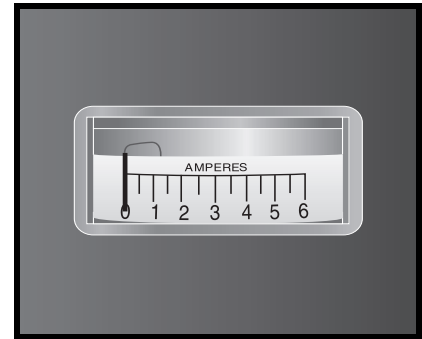

Figure 7. Ammeter
You can also use the ammeter to check your batteries' charge. The ammeter is located on the utility tray under the rear shroud. See figure 7. The ammeter reading should be at or near zero (0) when the batteries are fully charged. The battery charger must be plugged into a standard electrical outlet to obtain an ammeter reading.